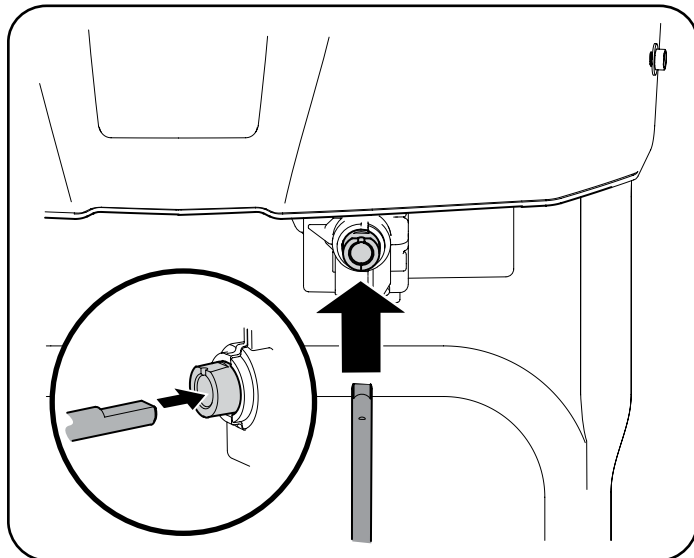

Figure 31
5. Insert the other end of the chute control rod into the input shaft below the handle panel. Make sure to line up the flat end of the rod and the flat end of the input shaft. You may need to rotate the rod around until these two surfaces line up. See Figure 31.